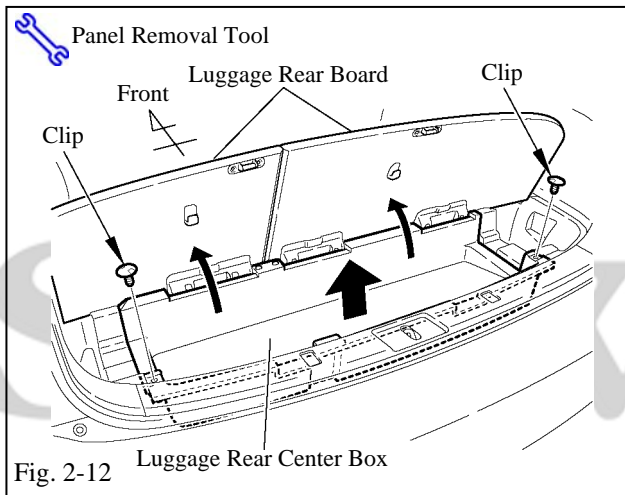

Fig. 2-12
- (m) Remove the luggage rear center box (Fig. 2-12).
- (1) Open the luggage rear board.
- (2) Detach the clips.